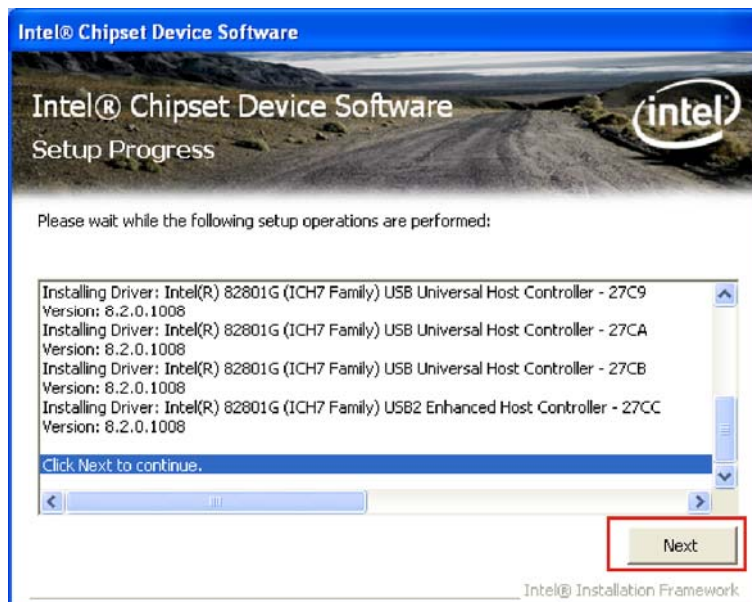

Figure 7-7: Chipset Driver Setup Operations
Step 10: Setup Operations are performed as shown in **Figure 7-7**.